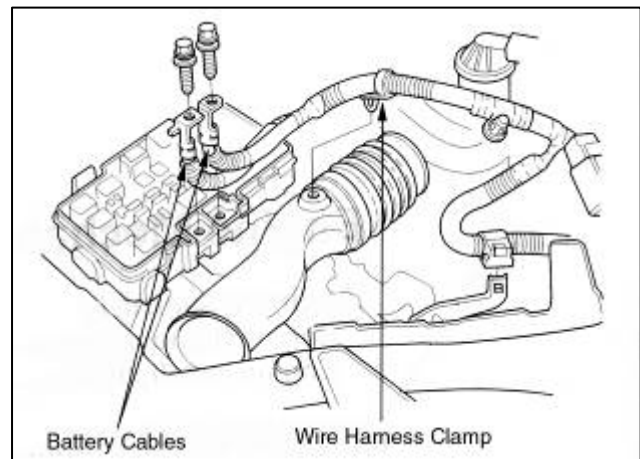

Fig. 2
- Remove the battery cables from the fuse box, and remove the wire harness clamp from the intake air duct. **(Fig. 2)**